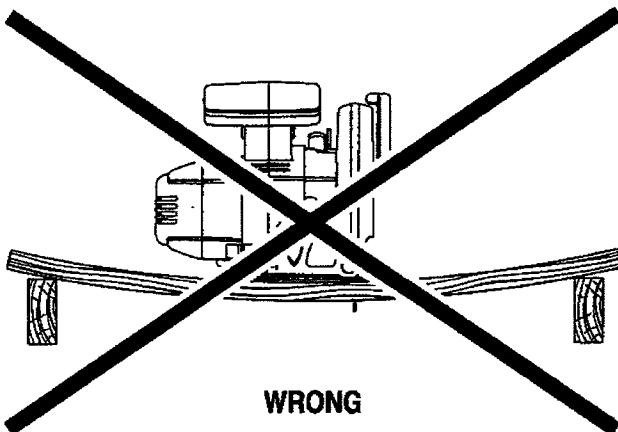

Fig. 8
- Incorrectly supporting workpiece. See Figure 8.
- To avoid pinching the blade, support the workpiece properly before beginning a cut. The right and wrong ways to support large pieces of work are shown in figures 8 and 10.